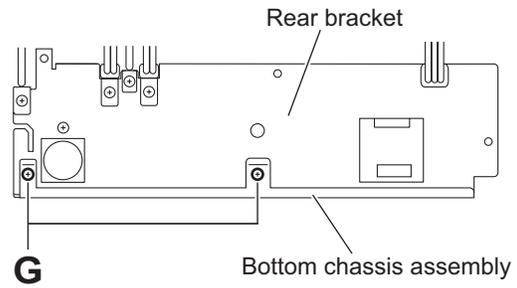

Fig.10
3.1.6 Removing the main board (See Figs.10 and 11)
- (1) From the rear side of the bottom chassis assembly, remove the two screws **G** attaching the rear bracket to the bottom chassis assembly. (See Fig.10)